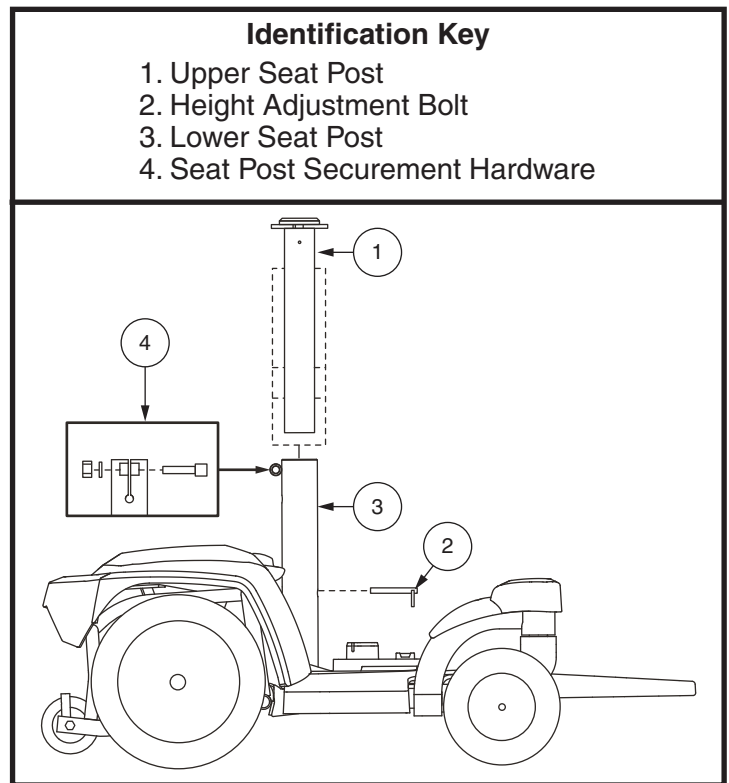

Figure 10. Seat Height Adjustment
8. Loosen the hardware at the rear of the seat post. **See figure 10.**
9. Pull seat post pin for height adjustment. **See figure 10.**